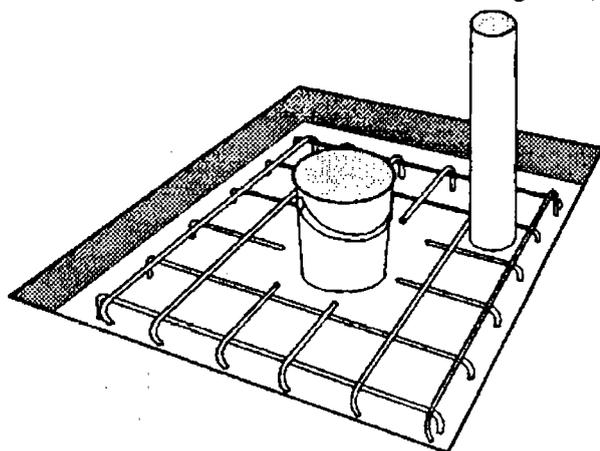

Figure 8. Making the squat hole
- Put an old bucket with a bottom about 200 millimetres across or a template in the shape of a keyhole in the grid (see Figure 8).